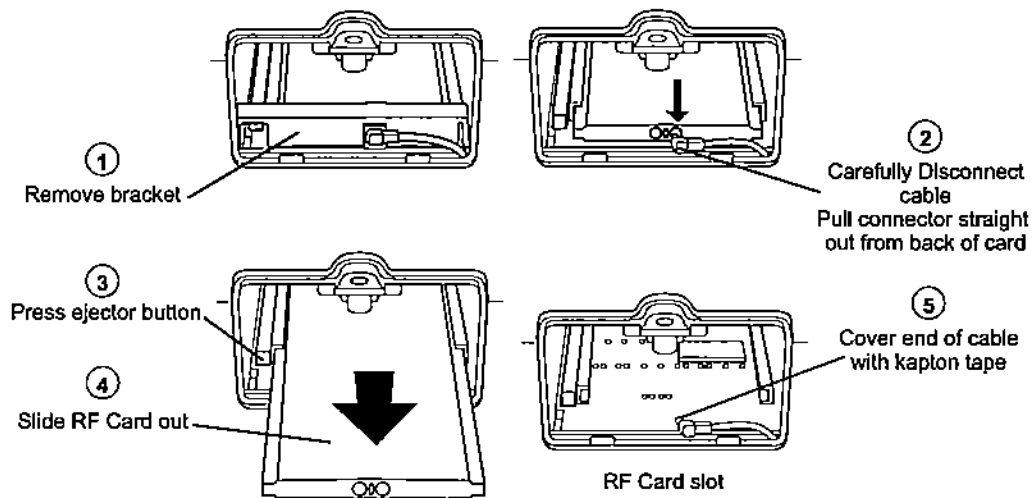

Figure 2-21. Removing the RF Card from the MK2000
3. Remove the RF Card as shown in Figure 2-21.